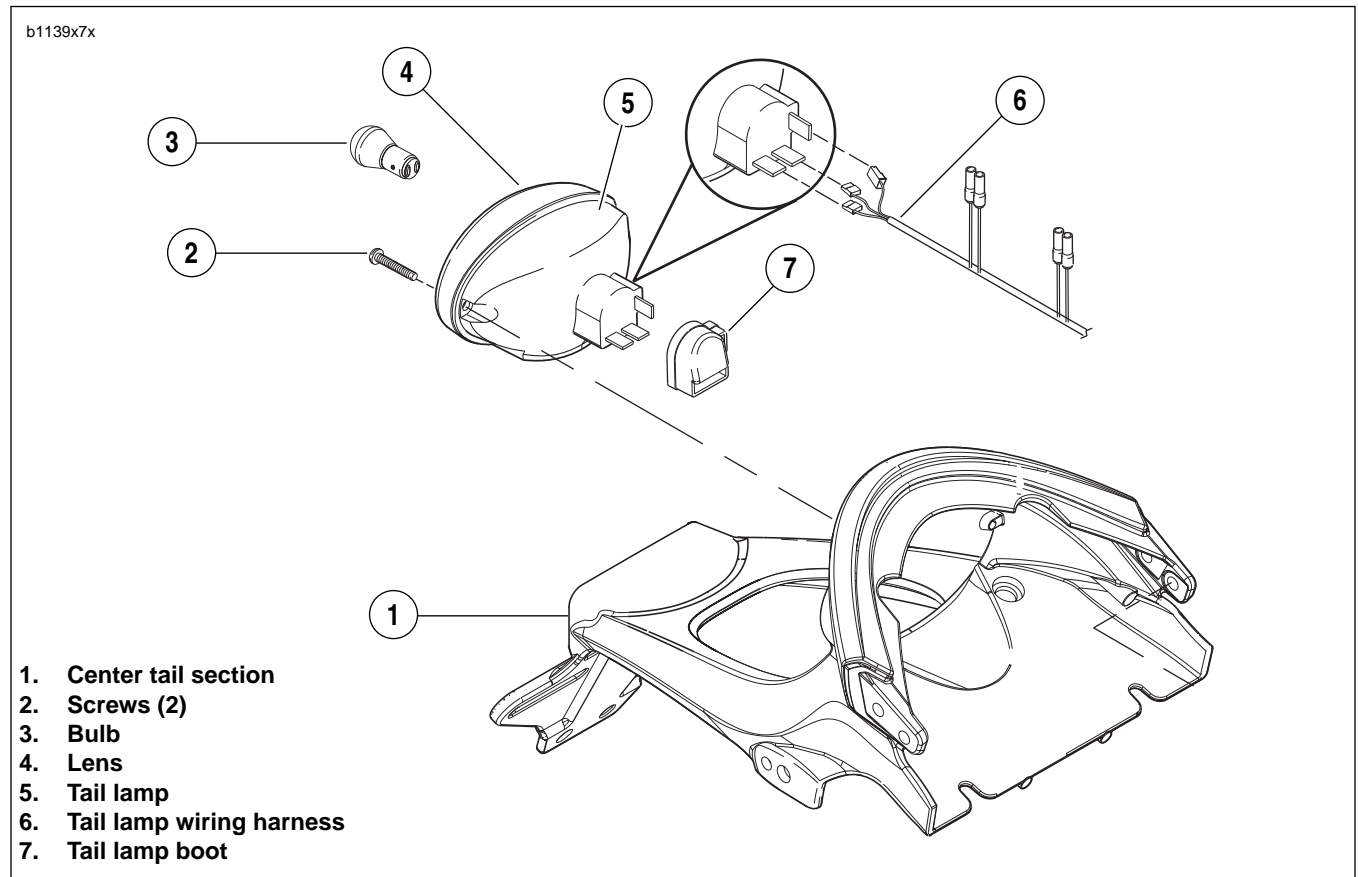

Figure 7-54. Tail Lamp Assembly
1. See Figure 7-54. Remove two screws (2) to detach tail lamp lens (4) and tail lamp (5). If replacing bulb (3), turn counterclockwise and remove.
3. Disconnect three connectors [93] from tail lamp harness (6).
1. See Figure 7-54. Attach the three tail lamp harness connectors [93] (7).
2. If removed, install tail lamp bulb (3).
- b. Install tail lamp lens (4) and tail lamp (5) with two fasteners (2). Tighten to 6-7 **in-lbs** (0.7-0.8 Nm).